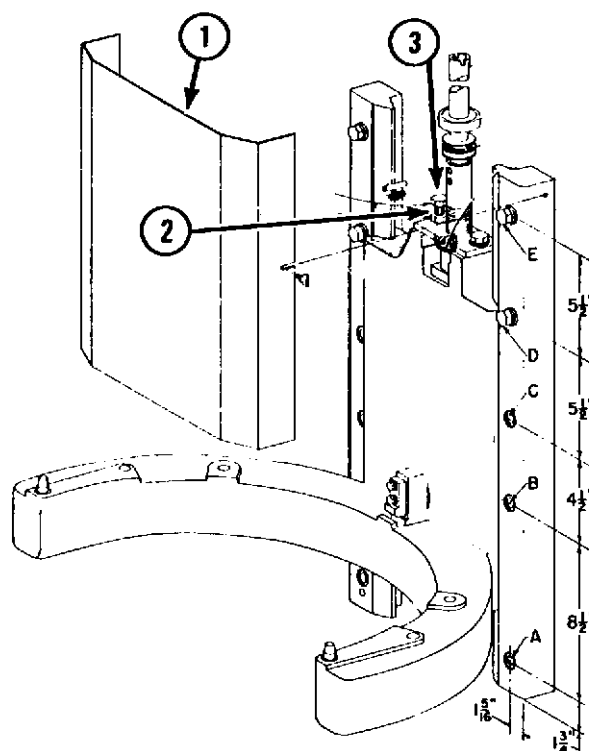

Fig. 7-2
- (1) Remove the bowl apron (1, Fig. 7-2) and inner apron. (Older mixers do not have an inner apron.)
- (2) Loosen the locknut (2, Fig. 7-2) and turn the stop screw (3, Fig. 7-2) clockwise to decrease the clearance or counterclockwise to increase the clearance.
- (3) Tighten the locknut while holding the stop screw.
- B. Remove the apron (1, Fig. 7-2) and inner apron. (Older mixers do not have an inner apron.)
- C. Raise the bowl support to its top position and remove the body putty and paint from in front of the 3 bottom bolts (A.B.C., Fig. 7-2) on the right hand slideway.
- F. Tighten the top slideway bolt (E, Fig. 7-2).